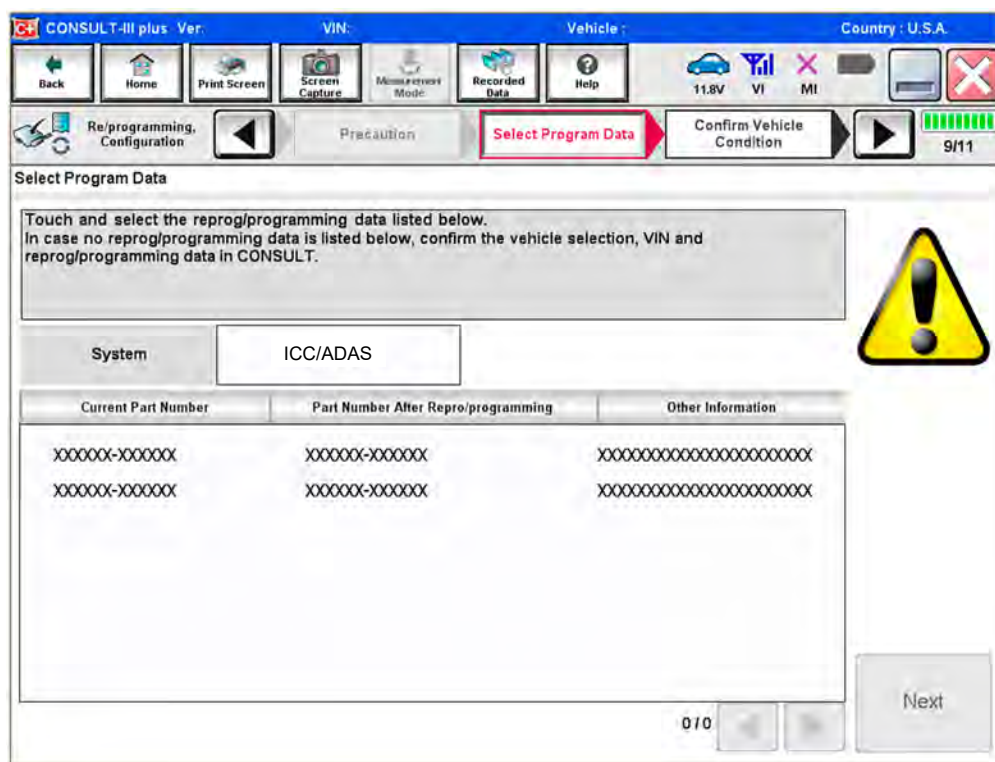

Figure 28
- If more than one new P/N is available, the screen in Figure 28 displays.